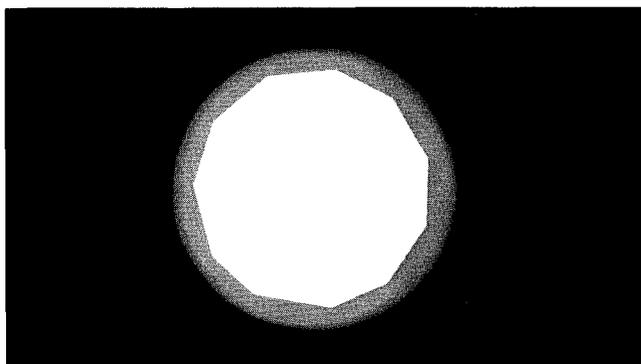

Figure 29. Setting the Aperture Diaphragm
- J. Remove an eyepiece and view the back aperture of the objective (Figure 28). Close the condenser aperture diaphragm (Figure 29), then re-open until the iris diaphragm leaves "just" disappear from view to obtain the full resolving power of the microscope. If desired, the condenser aperture diaphragm may be closed as required, depending upon the specimen, to enhance contrast and depth of focus.